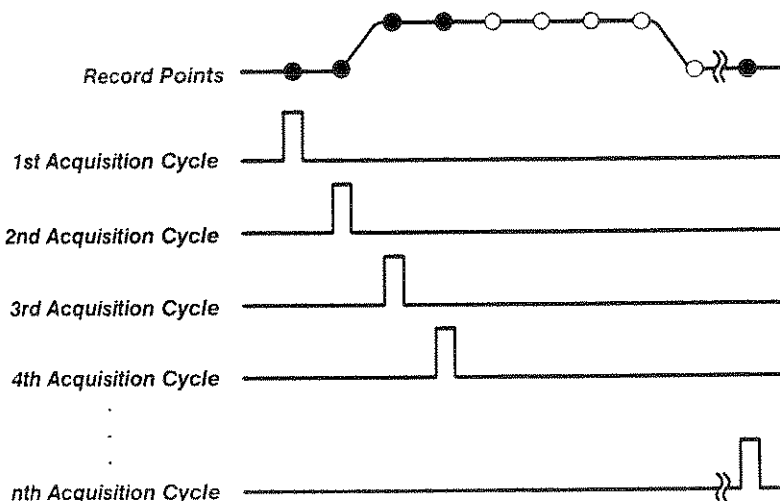

Figure 2-9: Sequential Equivalent-Time Sampling
TDS 800 Digitizing Oscilloscopes use equivalent-time sampling. In equivalent-time (ET) sampling the oscilloscope acquires samples over many repetitions of the event (Figure 2-9).